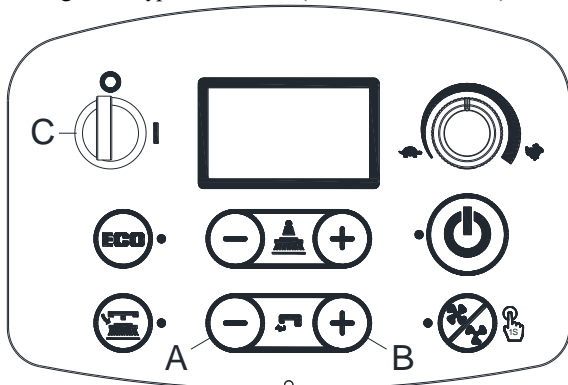

Figure 5
1. Press water flow button "+"(A, Figure. 5) and "-"(B, Figure. 5) at the same time .
2. Insert the ignition key (C, Figure. 5) and turn it to "I".
4. Press water flow button "-"(A, Figure. 5) and "+"(B, Figure. 5) to select battery mode (H, Figure. 6)
5. 3 seconds later show " Update OK" means setting succeeds, turn on to restart. (C, Figure. 5)